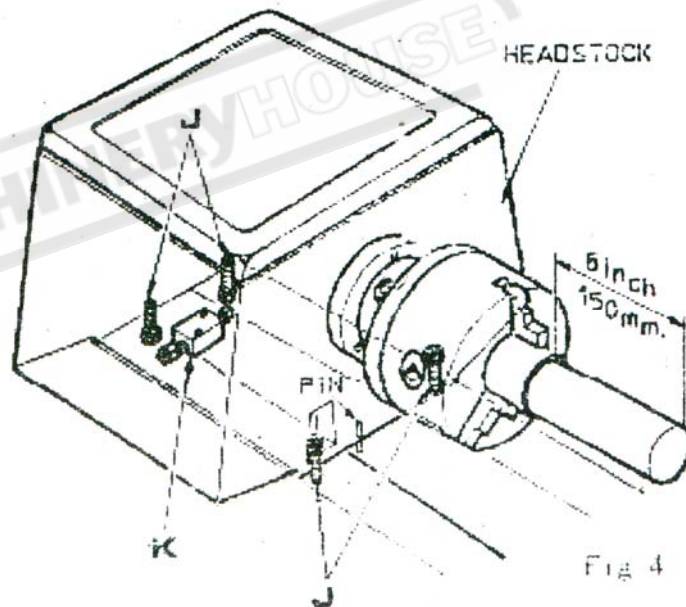

Fig. 4
take a light cut-with a keen tool over a 5 In.(150mm) length of 2 In.dia.(50mm).steel bar gripped in the chuck but not supported at the free end. Micrometer reading at each end of the turned length (at A and B of Fig.4) should be the same.
To correct a difference in readings, slacken and release the four-headstock hold-down screws (J) shown in Fig.4 and adjust the set-over screw (K) beneath the headstock. Then tighten all screws, after adjustment and repeat the test-cut/micrometer-reading sequence until micrometer reading are identical, so machine now cutting absolutely parallel.